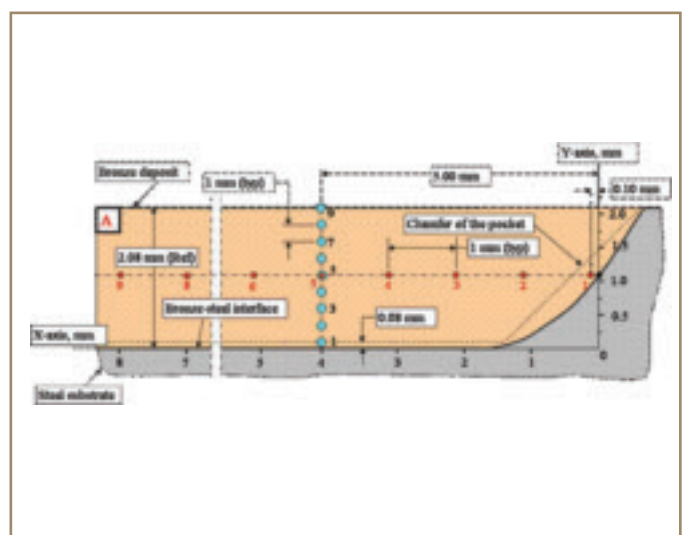

Fig. 8 — Schematic of Section B that has locations of where measurements were taken and represented in Table 7.
Iron content was measured in the main area of the deposit using the optimal welding conditions as summarized in Table 5. The measurements were made on the machined surface of the bronze deposit in the main area (outside of directly cooled circles and away from the steel-bronze interface). As shown in Fig. 8, three measurements (identified as start, mid, and end) were made on an individual 4-in.-long bead running along the short side of the pocket, two beads away from it. Two series of readings were made on the two deposits using the optimal cladding conditions: Series 1 — at the optimal travel speed, and Series 2 — at higher travel speed.
Layout of EDS measurements to determine iron content on side surface B is shown in Fig. 8. The results are summarized in Table 7 and plotted in Figs. 9A and 9B. Surface B is cut through bead #4. Group 1 of measurements consists of nine points (1x through 9x) that were taken in mid thickness of the deposit in X-direction. Point 1x is located 0.100 mm (0.004 in.) from the interface and the following points (2x through 9x) are away from the interface at an increment of 1 mm (0.039 in.). Group 2 of measurements was taken in a through-thickness (Y) direction, the first one (9y) being taken at the surface of the machined deposit and the following ones — at an increment of 0.25 mm (0.010 in.), except point 1y located at 0.080 mm (0.003 in.) from the interface. A number of measurements was also taken on steel side at 0.10 mm (0.004 in.) from the interface.